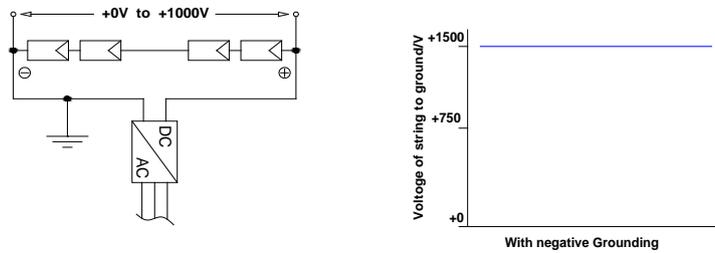

Figure 7 Schematic diagram for grounding potential of the inverter
7.5.6 If the module is used in high-temperature and high-humidity environment, Schutten Solar suggest the customer configure the inverter which allows negative grounding and contains isolation transformer (as shown in figure 7).